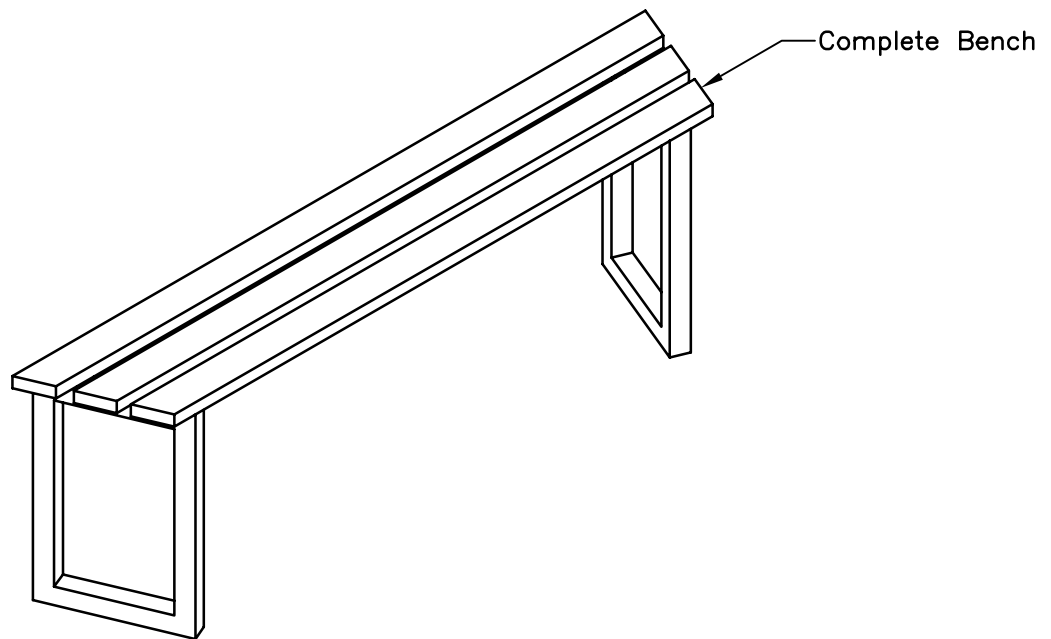

FIGURE S24
- The Hexagon Gazebo comes with 5 Benches and Octagon comes with 7. Each Bench has two legs. Attach both sets of legs to the Bench seat using 3" screws. See Figure S24.